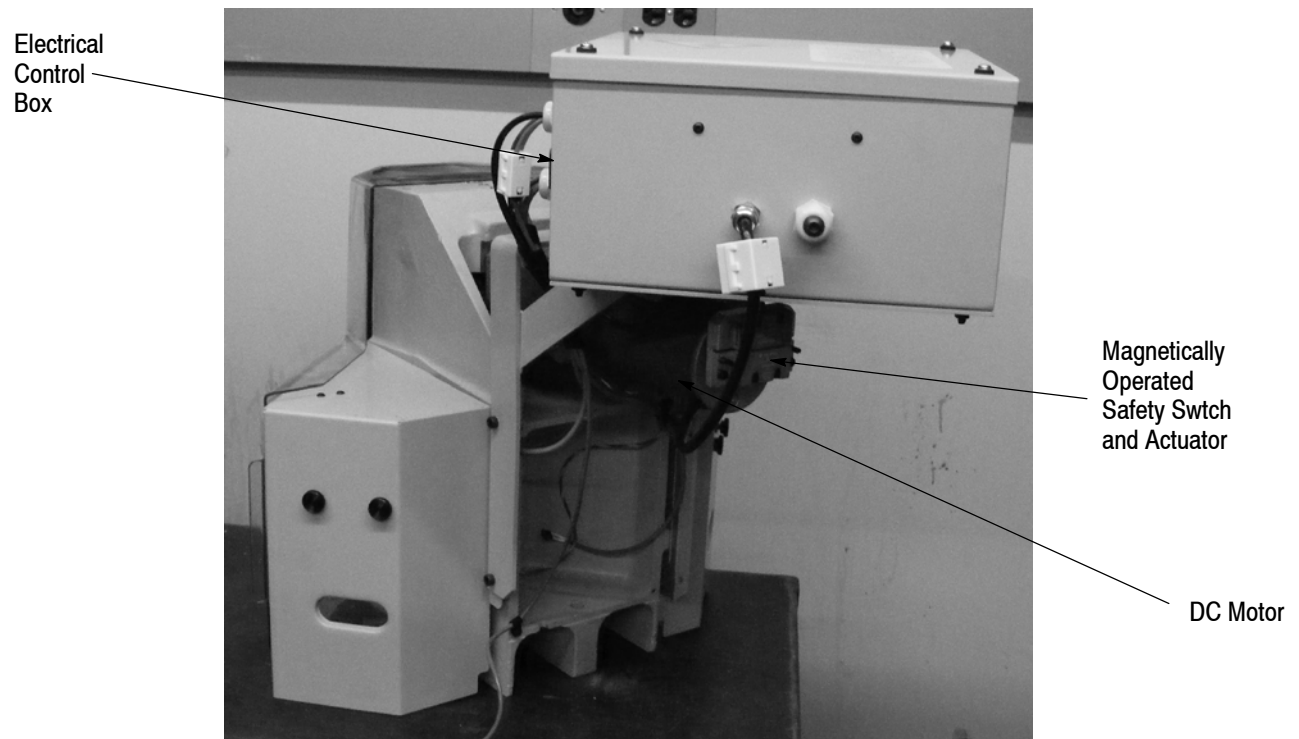

Figure 3
1. The **motor group** includes a dc motor which drives a crankshaft. See Figure 3. The motor is activated each cycle and rotates the crankshaft one full revolution. A hex key is located on the end of the motor, which allows the motor to be cycled manually. The hex key is accessed by removing the magnetically operated switch actuator.